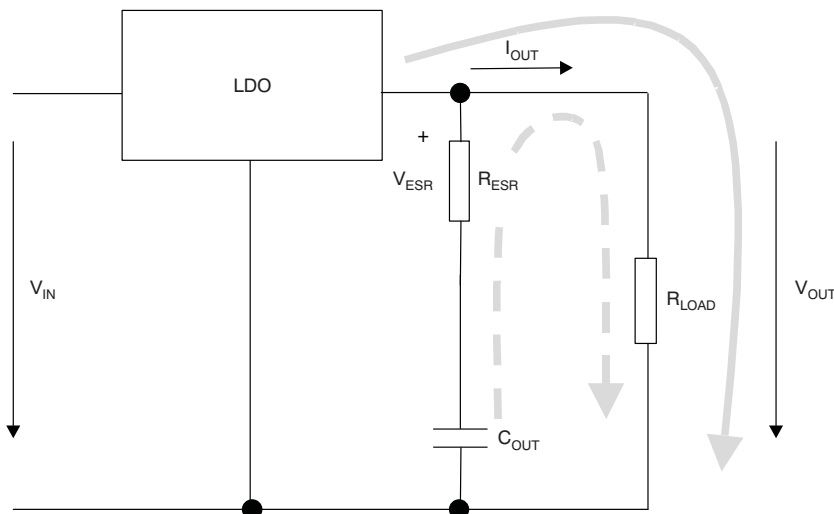
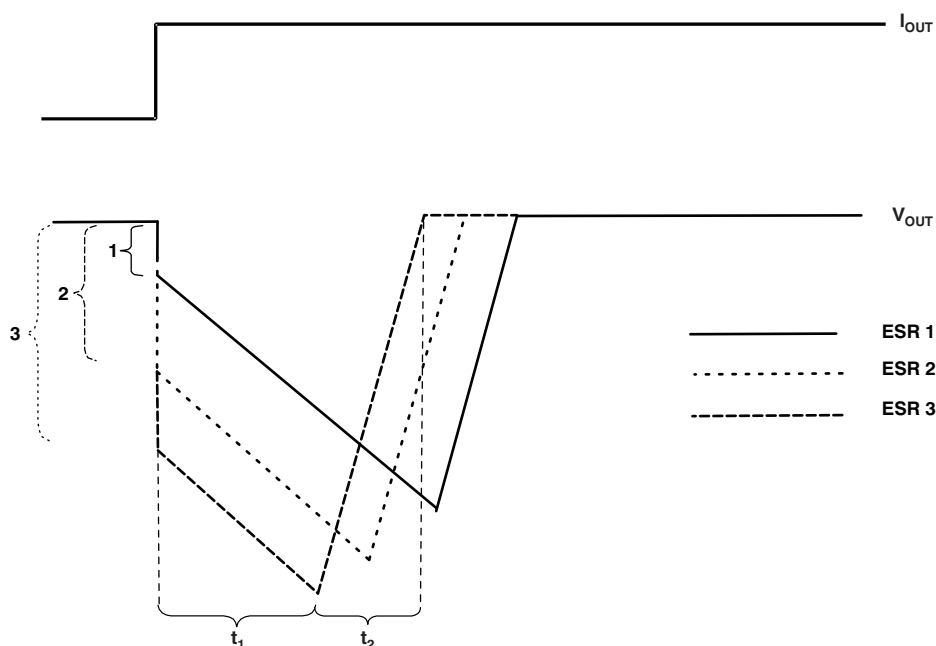

Figure 23. LDO Output Stage With Parasitic Resistances ESR and ESL
Figure 24. Correlation of Different ESRs and Their Influence to the Regulation of  $V_{OUT}$  at a Load Step From Low-to-High Output Current
Figure 23 shows the output capacitor and its parasitic impedances in a typical LDO output stage.
- The LDO is not able to supply the sudden current need because of its response time ( $t_1$  in Figure 24). Therefore, capacitor  $C_{OUT}$  provides the current for the new load condition (the dashed arrow).  $C_{OUT}$  now acts like a battery with an internal resistance, ESR. Depending on the current demand at the output, a voltage drop occurs at  $R_{ESR}$ . This voltage is shown as  $V_{ESR}$  in Figure 23.
- When  $C_{OUT}$  is conducting current to the load, initial voltage at the load is  $V_{OUT} = V(C_{OUT}) - V_{ESR}$ . As a result of the discharge of  $C_{OUT}$ , the output voltage  $V_{OUT}$  drops continuously until the response time  $t_1$  of the LDO is reached and the LDO resumes supplying the load. From this point, the output voltage starts rising again until it reaches the regulated voltage. This period is shown as  $t_2$  in Figure 24.
Figure 24 also shows the impact of different ESRs on the output voltage. The left brackets show different levels of ESRs where number 1 displays the lowest and number 3 displays the highest ESR.